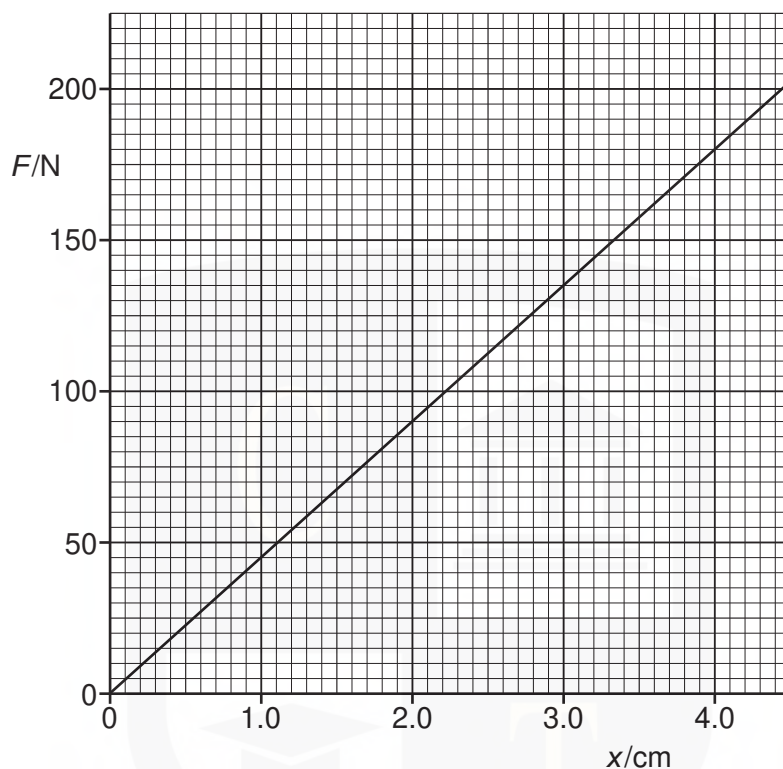

Fig. 3.1
- 5 (a) The variation with extension x of the tension F in a spring is shown in Fig. 3.1.
Use Fig. 3.1 to calculate the energy stored in the spring for an extension of 4.0 cm.